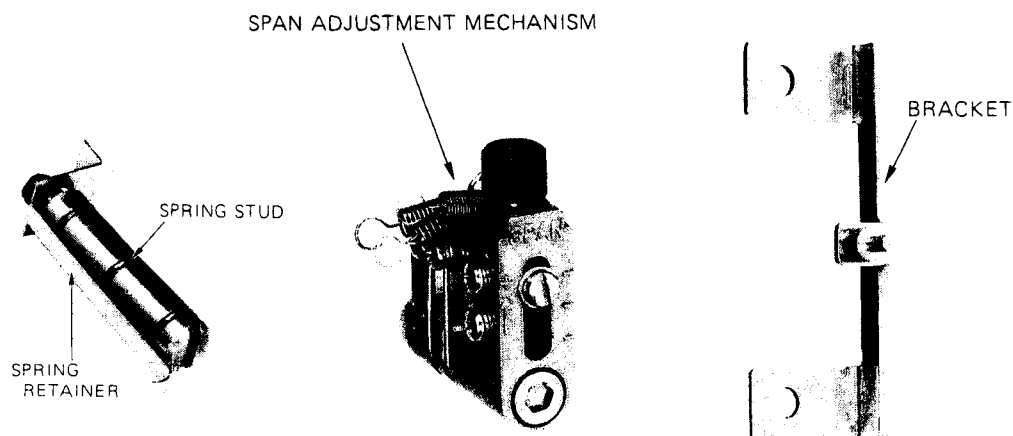

Fig. 14. Parts to be Replaced (4 Items)
- ① Pass the mounting stud of the span adjustment mechanism through the hole of the bracket and fix the stud to the mounting hole (lower) in the state as shown in Fig. 14, using a hex bar wrench.